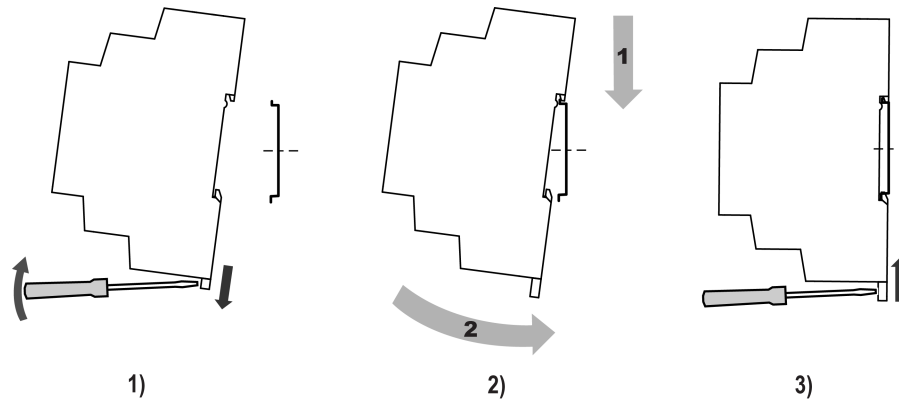

Abb. 5.1
1. Place the device on a DIN rail as shown in Fig. 5.1.